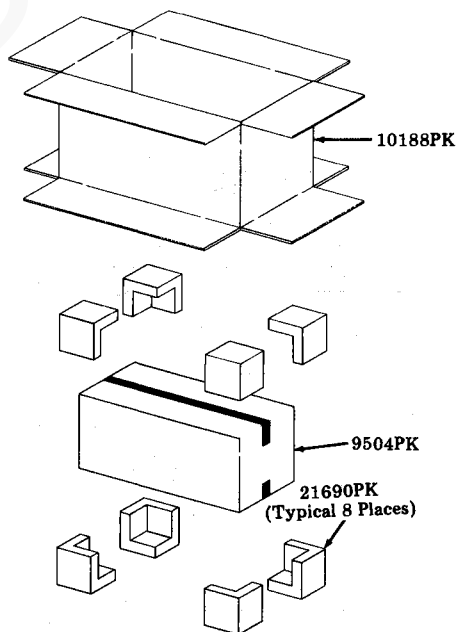

Fig. 57
- Step 7. Position a 21690PK corner detail on each of the four corners of the inner container as illustrated in Fig. 57.
- Step 9. Position a 21690PK corner detail on each of the four corners of the inner container as illustrated in Fig. 57.